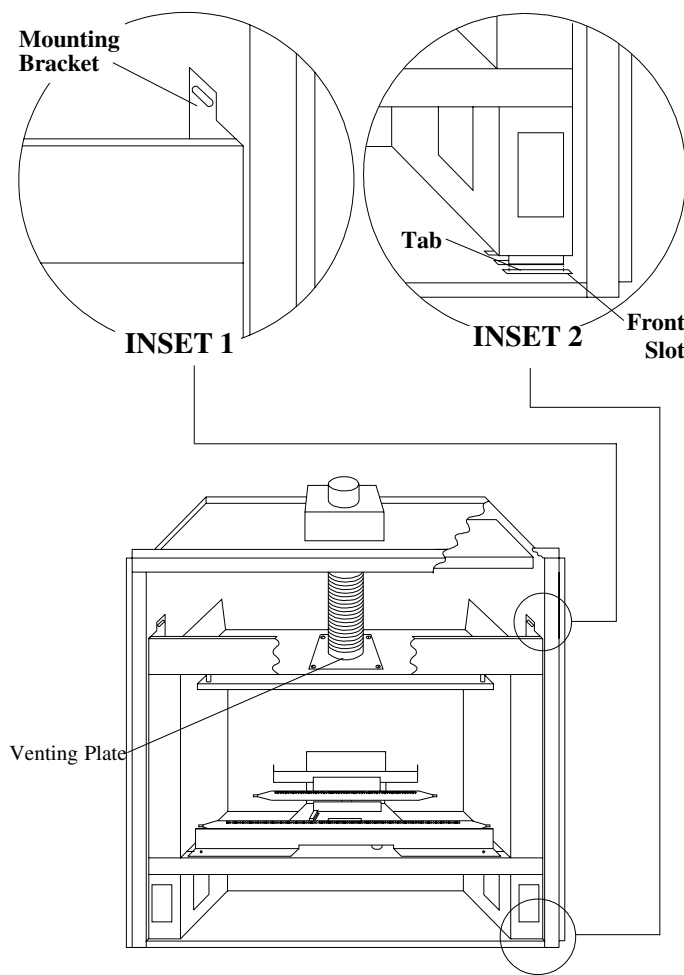

Figure 10. MW38-BV insert.
1. Remove the two machine screws (1 left & 1 right) at the top of the insert that attach the insert to the shell. *See figure 10, inset 1.*
3. Remove the insert by tipping the top of the insert outward and lifting the tabs past the slots in the bottom of the shell. *See figure 10, inset 2.*